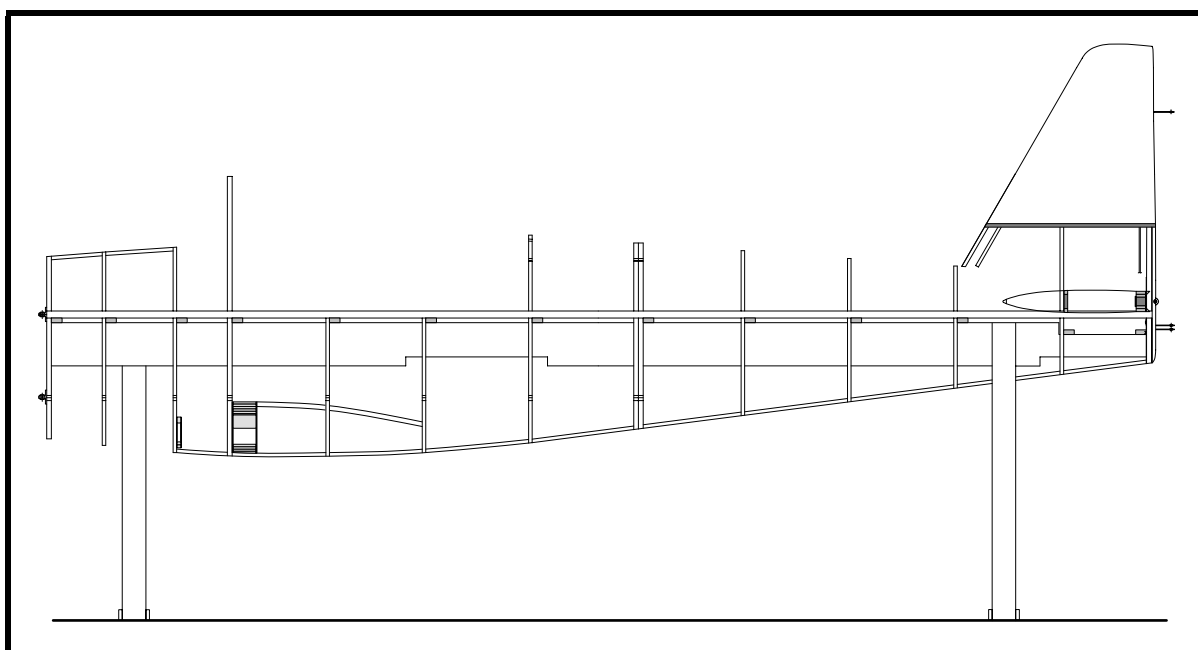

Figure 17
- ❑ Clamp the bottom center longeron in position. See Figure 17. Until you are absolutely certain that everything is in the exact position, there is no need to do the final sanding for the longeron fit in the longeron cutouts.